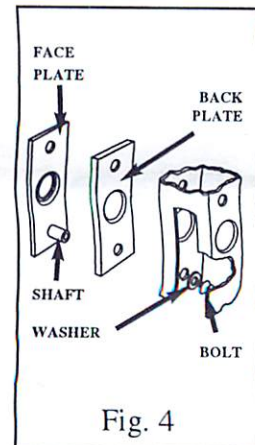

Fig. 4
11. Insert shaft on face plate (item 2) through lower hole in back plate and into the door stile. Fasten with short mounting bolt (item 10) and washer (item 9). Tighten securely using hex wrench provided. See Fig. 4.